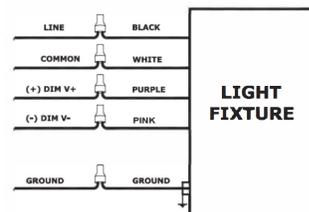

Fig 3
3. Insert the flexible power cable (not included) through the cable gland - to ensure sufficient length of the stripped cable inside the housing - and tighten the gland. (For electrical connection see Fig. 3)